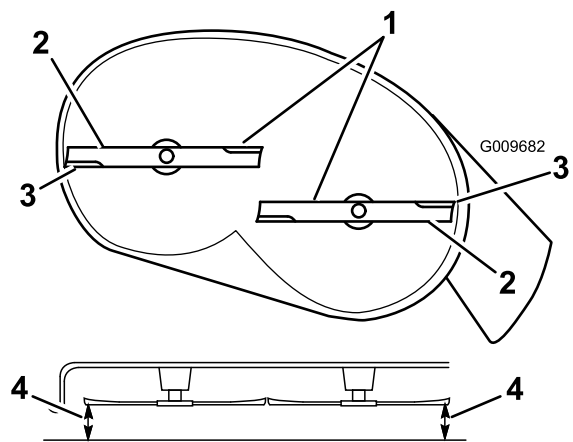
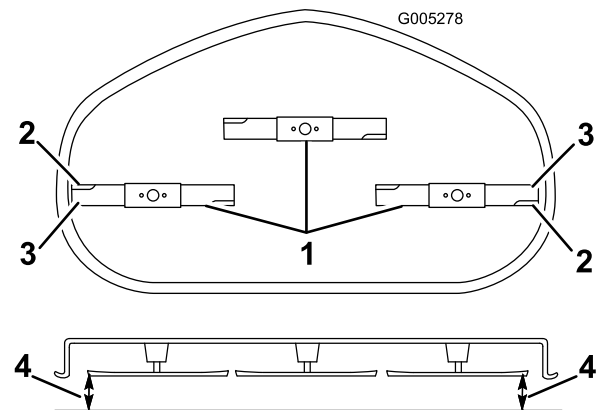

Figure 51
Figure 52
4. Carefully rotate the blades so that they are all side to side (Figure 51 and Figure 52).
5. Measure between the outside cutting edges and the flat surface (Figure 51 and Figure 52). If both measurements are not within 3/16 inch (5 mm), an adjustment is required; continue with this procedure.